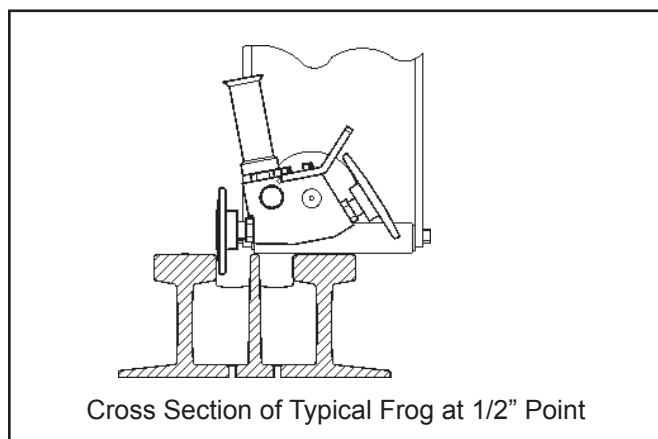

Figure 2. Grinding the Point of a Frog
For grinding the point of a frog, place the grinder on top of the point with the rollers (91) resting on the top of the point. Adjust each wheel pivot (86) to the position shown in figure 2. Grinding is accomplished by moving the grinder back and forth in line with the rail. It may be necessary to rotate the entire grinder 180 degrees and place it on the other side of the point in order to completely grind the width of the point. The extension assembly (128) is normally used during point grinding operations.